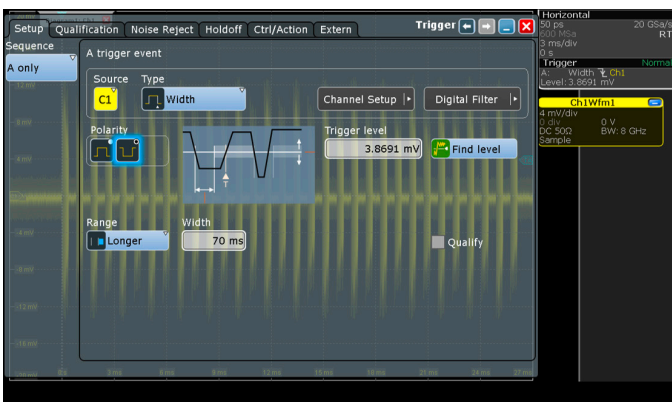

Fig. 5: Width trigger settings to trigger on the start of the first chirp in the chirp sequence.
- ▶ Press the Local button on the oscilloscope screen to take control of the instrument, open the trigger settings and configure the trigger as shown in Fig. 5